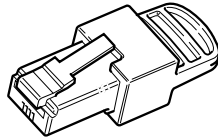

Figure 2-12 Network terminator
- Network terminators (see Figure 2-12): The Xanbus network must be properly terminated at each end to help ensure communication signal quality on the network. Network terminators plug into network ports on Xanbus-enabled devices. The charge controller and other Xanbus-enabled devices ship with one terminator. Depending on your network layout, this terminator might need to be inserted into another device elsewhere in the network. One terminator is required for all Xanbus network configurations.